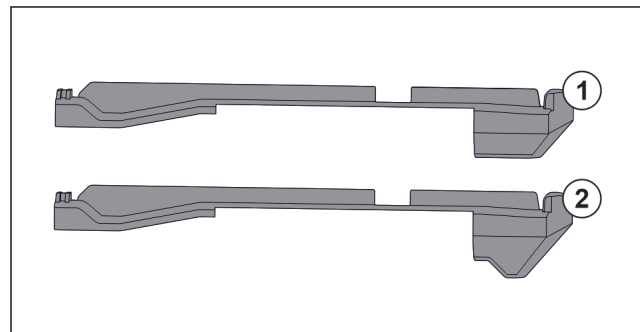

Fig. 118 Comparing attachments
There are two different attachments in the appliance. The attachment above the lowest drawer *Fig. 118 (2)* has a three-cornered edge. All other attachments *Fig. 118 (1)* have a straight edge.
- Fit attachment *Fig. 118 (2)* with the three-cornered edge above the lowest drawer.
- Fit attachment *Fig. 118 (1)* with straight edge in all other positions.